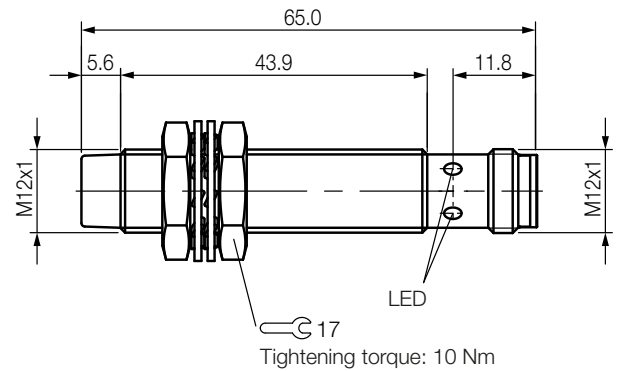

Fig. 3-1: Linear position sensors BAW M12MI-BLC35C-S04G and BAW M12MH-BLC70G-S04G, construction
- Observe tightening torques, see Fig. 3-1.